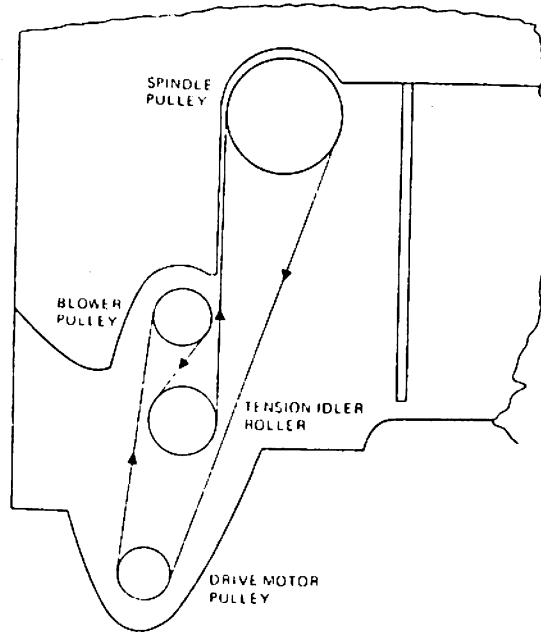

Figure 1. Belt Threading Pattern
2. Belt removal - Location of pulleys and direction of rotation is indicated in Figure 1.
The following sequence is followed when replacing a drive belt. Refer to Figure 1 for threading pattern. Use belt called for in parts required list.